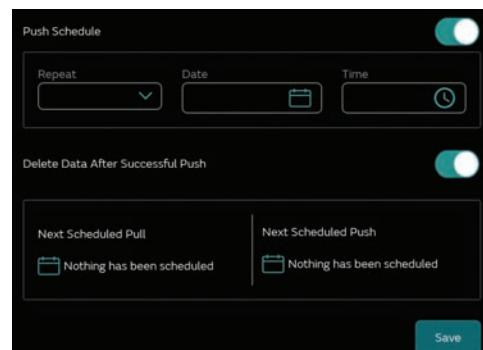

Figure 17. Scheduling for Push
2. Tap Intervals to select the frequency, Once, Daily, Weekly, or Monthly (Figure 17).